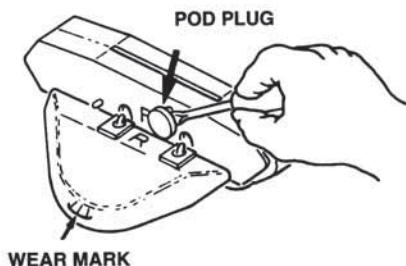

Figure 9
1. Check the condition of the “shoes, wings and flaps” periodically. The shoes and wings have wear indicators on their sides and should be checked occasionally to determine if they need replacing. The shoe wear indicator is a line on the side of the shoe that appears as a difference in texture. When this texture difference is no longer visible at the bottom of the shoe when viewed from either side, the shoes must be changed (*see Figure 8*). Also on the side, the wing wear indicator is a horizontal line which has three (3) vertical lines above it. When you can no longer see the horizontal line, the wings must be changed (*see Figure 9*). The Hayward **Navigator Tune-Up Kit** is available from your dealer. Shoes, wings and flaps may also be purchased separately.
- Using a screwdriver, remove the plugs from both pods (see Figure 9).